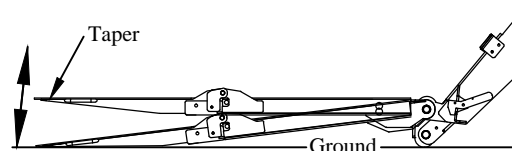

Figure 6: Step 10.
- Step 10. To lower the platform to the ground push down on the control toggle. The platform will lower and the taper will tilt until the platform taper touches the ground (Figure 6).